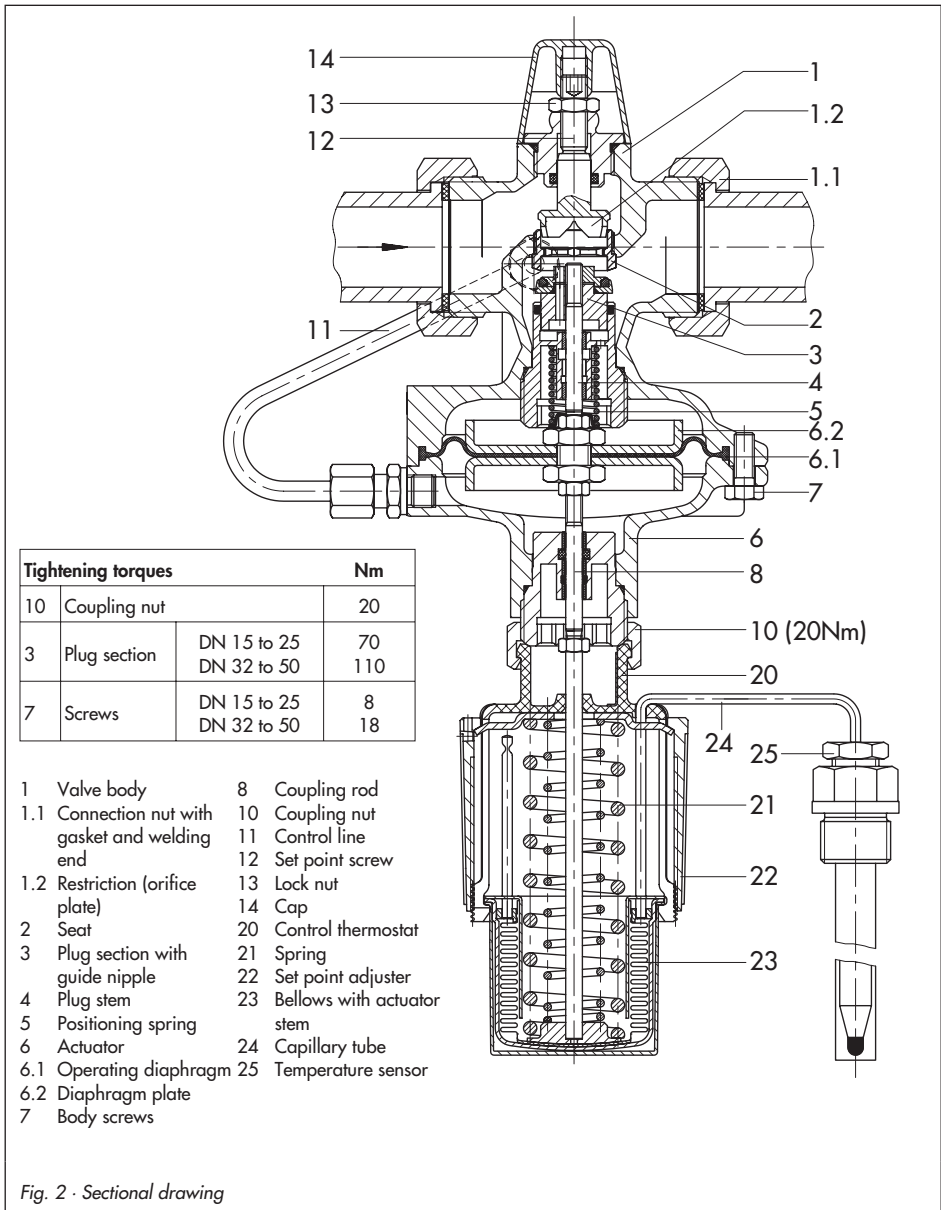

Fig. 2 - Sectional drawing
- Reassemble the regulator in reverse order, observing the tightening torques given in the table in Fig. 2.
1. Unscrew the control line (11).
2. Unscrew the body screws (7) and remove the lower diaphragm case including the diaphragm (6.1) and diaphragm plate.